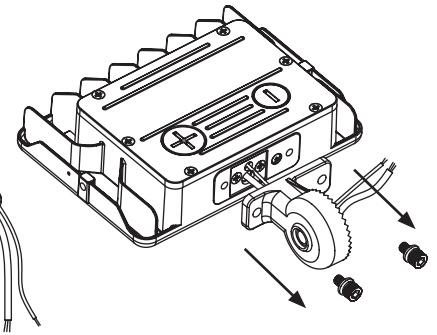

figure 2.2
- Pass the wires through the mounting and unscrew the two smaller screws. (figure 2.2)